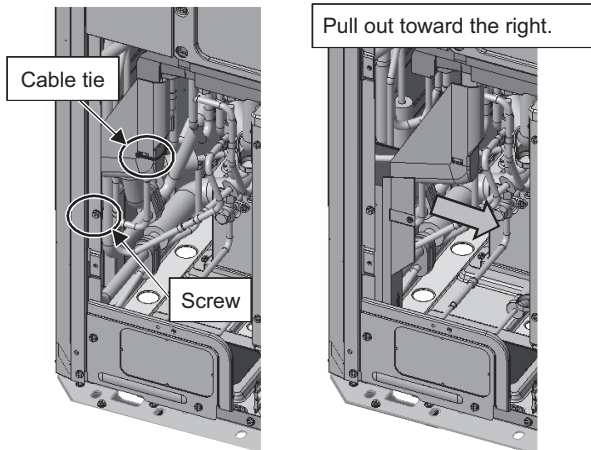

Figure 3
- (2) Cut the cable tie, unscrew the screw, and pull out the drain pan cover toward the right. (See Figure 3.)